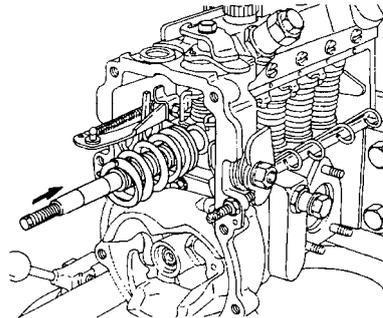

Figure 112 Installing the Governor Shaft
- dd. If previously removed, install the spring seat and springs onto the governor shaft and insert the governor shaft into the bore in the governor housing (Figure 112).